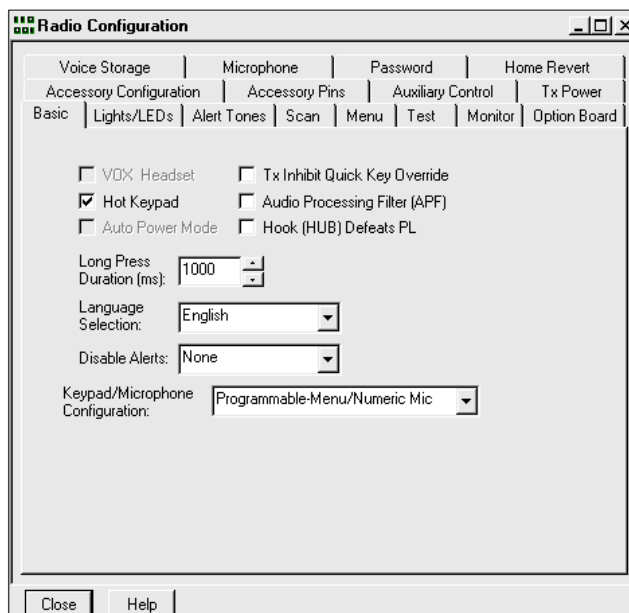

Figure 8-1. Basic (R*I*C*K) Unidirectional Repeater, Basic Configuration, Receive Radio
4. If necessary, uncheck the “Hook (HUB) Defeats PL” selection box. Your screen should appear similar to Figure 8-1.
4. If necessary, un-check the “Hook (HUB) Defeats PL” selection box. Your screen should appear similar to Figure 8-1 on page page 8-1 for the receive radio.
4. If necessary, uncheck the “Hook (HUB) Defeats PL” selection box. Your screen should appear similar to Figure 8-1 on page 8-1.